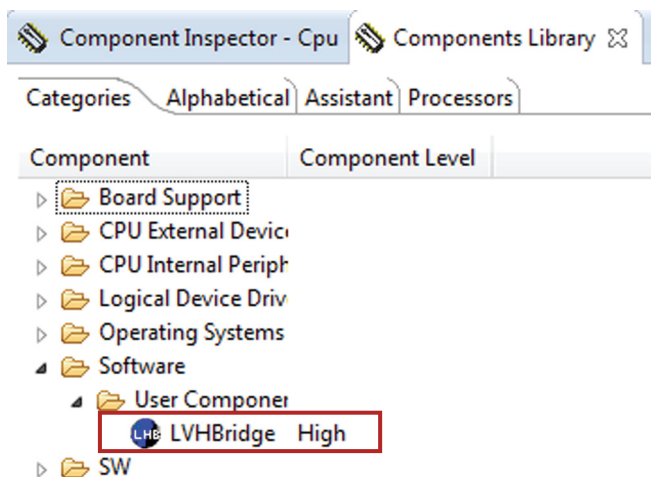

Figure 8. LVHBridge Component Location after CodeWarrior Import
3. If the import is successful, the LVHBridge component appears in Components Library -> SW -> User Component (see Figure 8). Note that the component **ChannelAllocator** is hidden and is not accessible to users. This component is used by the LVHBridge component only.